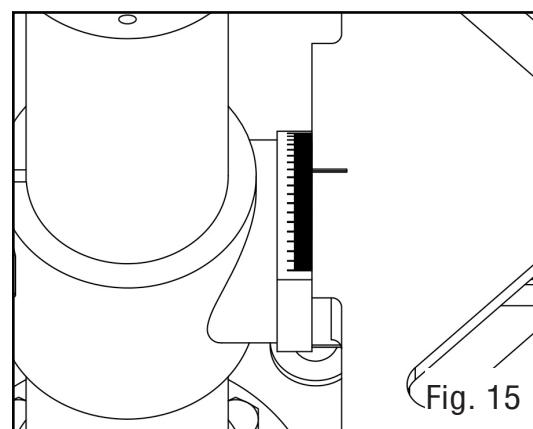

Fig. 15
2. Tilt the table to the desired angle, using the bevel scale (Fig. 15) as a basic guide.